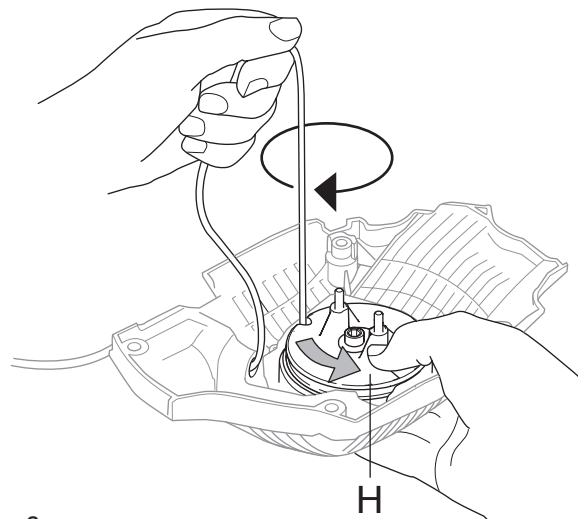

Fig. 6
7. Wind the cord onto the starter pulley and rotate the pulley clockwise until the cord is correctly tensioned. See below and fig. 6.
3. Fit the two pawls on the flywheel. See fig. 6.